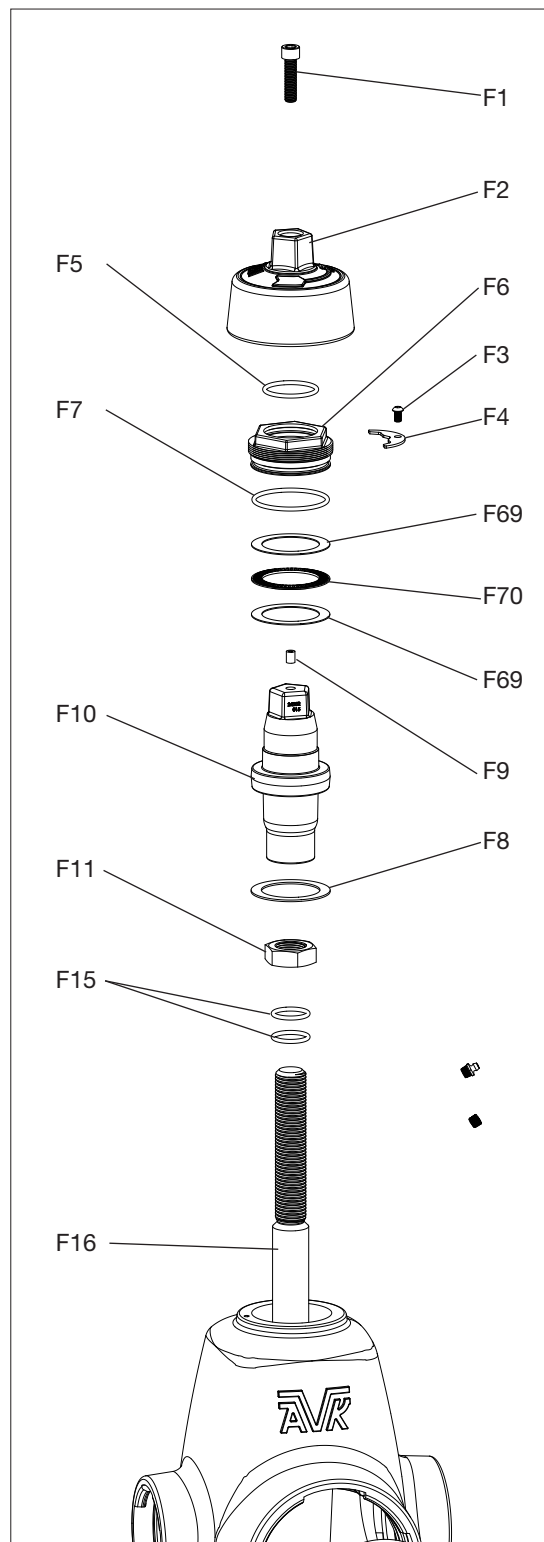

Fig. 12
7. Install the thrust bearing races (F69) and thrust bearing (F70) as shown in fig. 12.